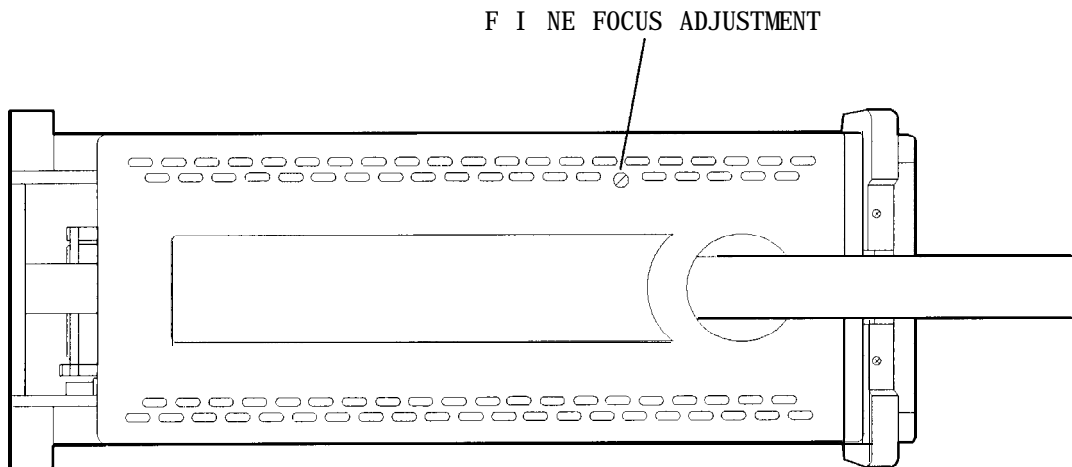

Figure 2-3. Adjusting the Fine Focus
2. Use an adjustment tool or small screwdriver to access the fine-focus adjustment. See Figure 2-3. Adjust for a focused display.